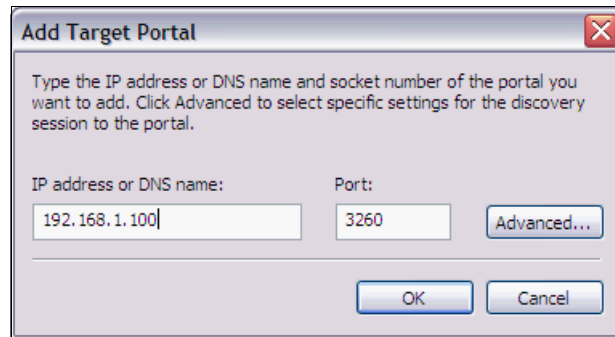

Figure 7-114 Add Target Portal window
3. In the Add Target Portal window (Figure 7-114), enter the IP address or DNS name and port number for the target portal that you want to log on to. Then click **OK**.